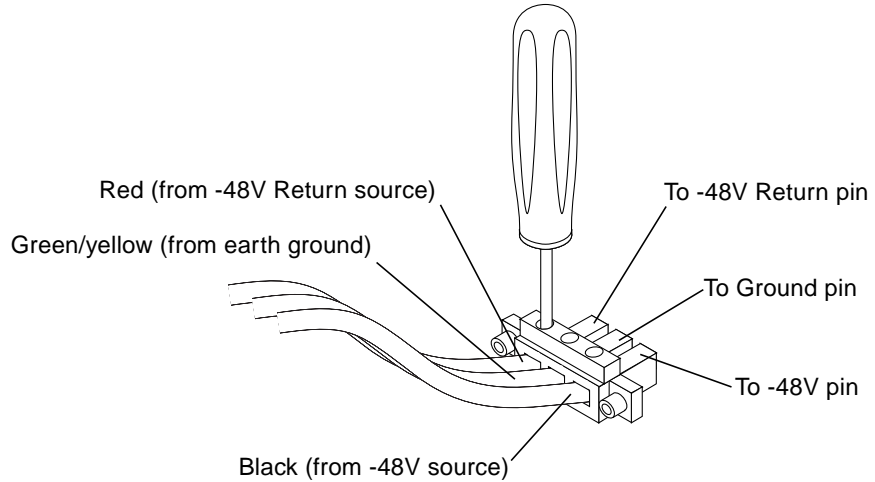

FIGURE 5 Tightening the Captive Screws at Bottom of DC Connector
6. Use a screwdriver to tighten the three captive screws at the bottom of the DC plug connector to secure each wire in place (FIGURE 5).